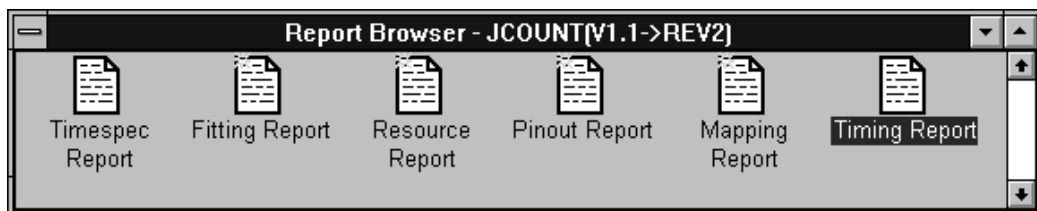

Figure 6-1 Report Browser
1. Select the Report Browser command from the Utilities menu. The Report Browser window appears as shown in Figure 6-1.